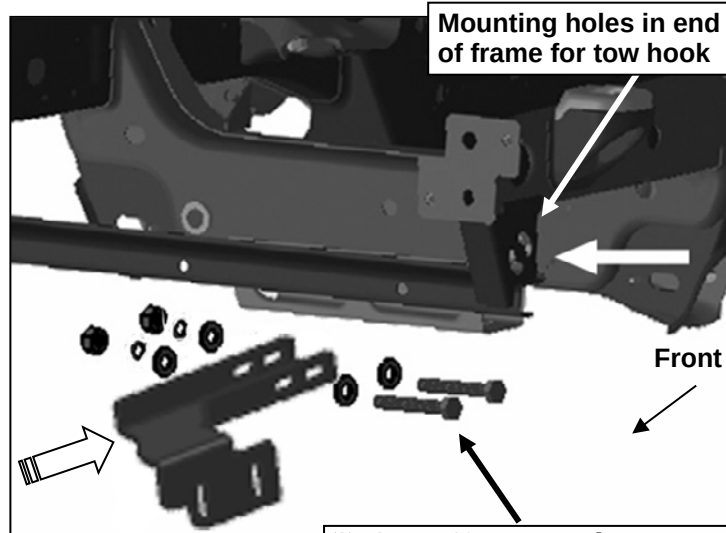

Fig 8
3. Line up the (2) holes in the Bracket with the (2) holes in the frame for the tow hook. Select (2) 12mm x **90mm** Long Hex Bolts and (2) 12mm Flat Washers, **(Figure 8)**. Insert the Bolts with Washers through the Bracket and the (2) holes through the frame, **(Figure 7)**. Secure with (2) 12mm Flat Washers and (2) 12mm Lock Washers (2)12mm Hex Nuts, Do not fully tighten hardware at this time.